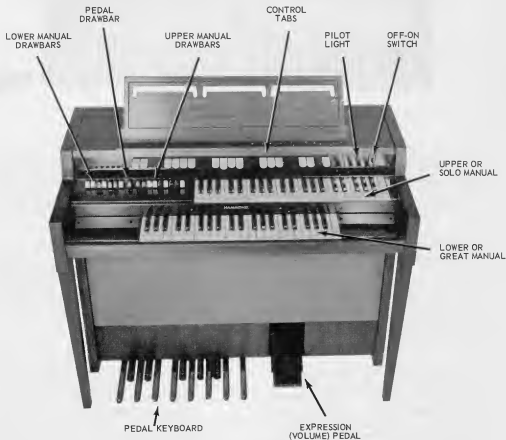

Figure 1-1. L-100 Console, Front View
- 1-1. **GENERAL** – This section contains a description of the operating principles of L-100 Series organs. Figures 1-1 and 1-2 depict the locations of the various subassemblies. Figure 1-3 is a block diagram.
A toggle switch (Figure 1-1) controls power to the organ.
- 1-9. **EXPRESSION PEDAL.** — The expression pedal, sometimes called "swell" pedal (Figure 1-1) is operated by the player's right foot and varies the volume of both manuals and pedals together. When the pedal is tilted back (closed) by pushing on the player's heel the music is softest, and when pushed forward (opened) by the player's toe the music is loudest.